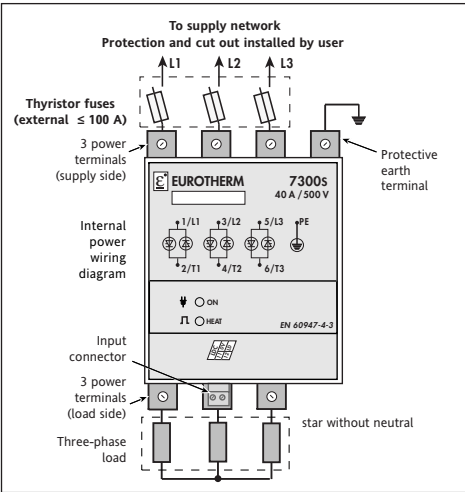

Figure 2-7 Connecting a three-phase load using Star without neutral configuration
- star without neutral (3 connection wires, code 3S), figure 2-7